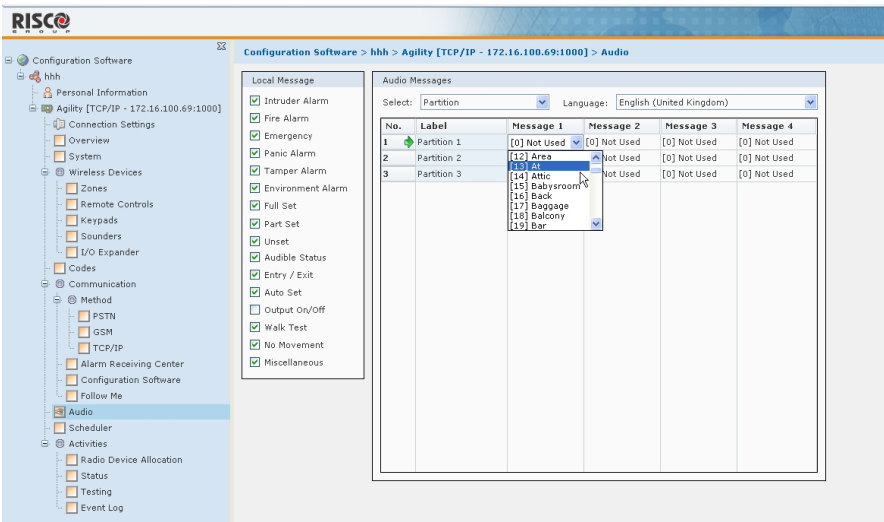

Figure 31: Audio screen
- Audio Messages** - A voice message can be assigned to a **zone**, **partition**, **output** or **macro**. When an event occurs this voice message will be heard accordingly. To assign a word from the voice messages library, double click on the relevant message number and line and select the desired word from the dropdown list (see *Figure 31*).